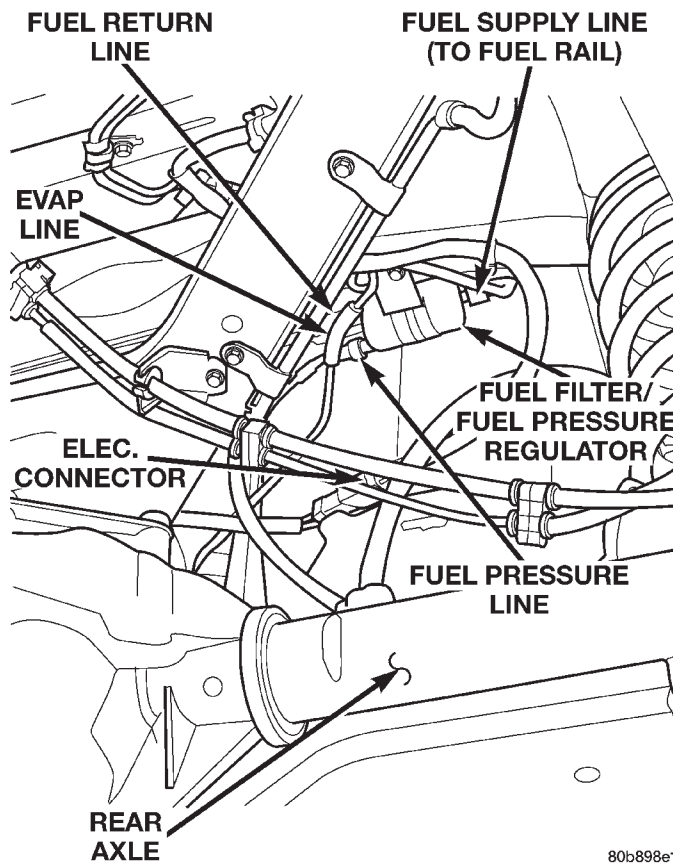

Fig. 40 Fuel Filter/Fuel Pressure Regulator
- (11) Disconnect fuel return line at fuel filter/fuel pressure regulator (Fig. 40). Refer to Quick-Connect Fittings for procedures.
- (12) Disconnect fuel pressure line at fuel filter/fuel pressure regulator (Fig. 40). Refer to Quick-Connect Fittings for procedures.
- (13) Disconnect EVAP canister vent line near front of tank (Fig. 40).
- (14) Disconnect fuel pump module electrical connector (pigtail harness) near front of tank (Fig. 40). Harness connector is clipped to body.